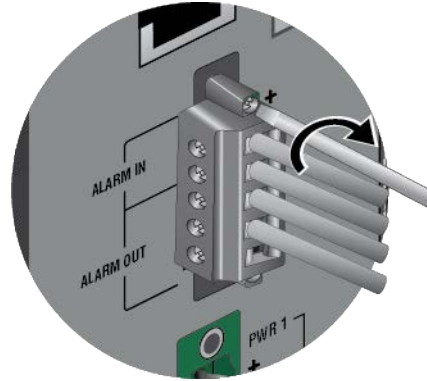

Figure 52. Securing the ALARM IN / ALARM OUT Plug to the Switch
10. Tighten the two captive screws to secure the ALARM IN / ALARM OUT plug to the switch. Refer to Figure 52 on page 105.